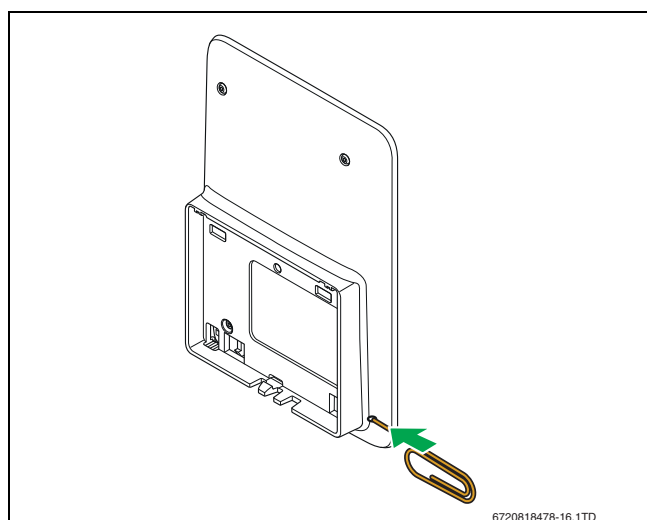

Fig. 19 Reset
- ▶ Press the Reset button (→ fig. 19) and hold for several seconds. Please note! This means that all personalised settings are deleted, and the Wi-Fi connection must be established again.